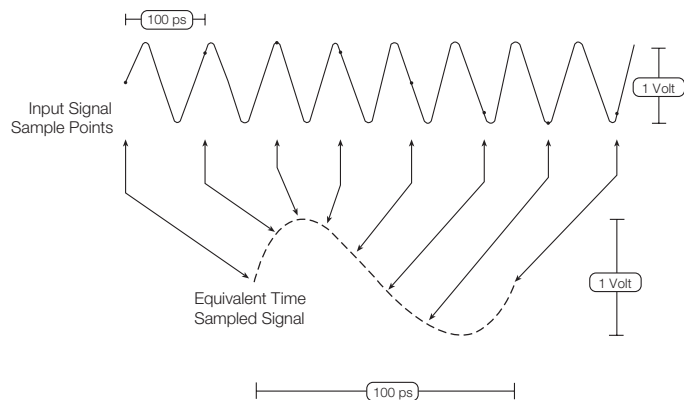

**Figure 23.** Peak detect mode enables the oscilloscope to capture extremely brief transient anomalies.
- **Peak Detect Mode:** The oscilloscope saves the minimum and maximum value sample points taken during two waveform intervals and uses these samples as the two corresponding waveform points. Digital oscilloscopes with peak detect mode run the ADC at a fast sample rate, even at very slow time base settings (slow time base settings translate into long waveform intervals) and are able to capture fast signal changes that would occur between the waveform points if in sample mode, as shown in Figure 22. Peak detect mode is particularly useful for seeing narrow pulses spaced far apart in time, as demonstrated in Figure 23.